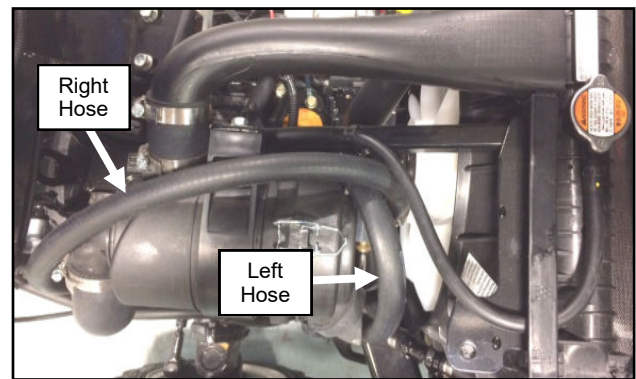

Figure 17.6 (Heater Hose Routing)
- 17.6** Run heater hose per figure 17.6.